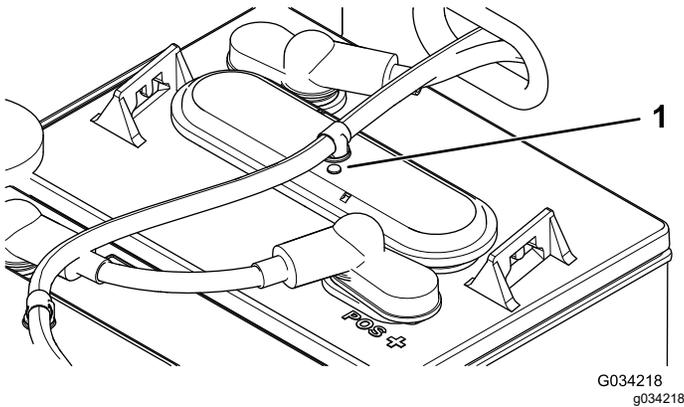

Figure 40
3. Check the eyelets on each of the batteries to see if they are either black or white (Figure 40).